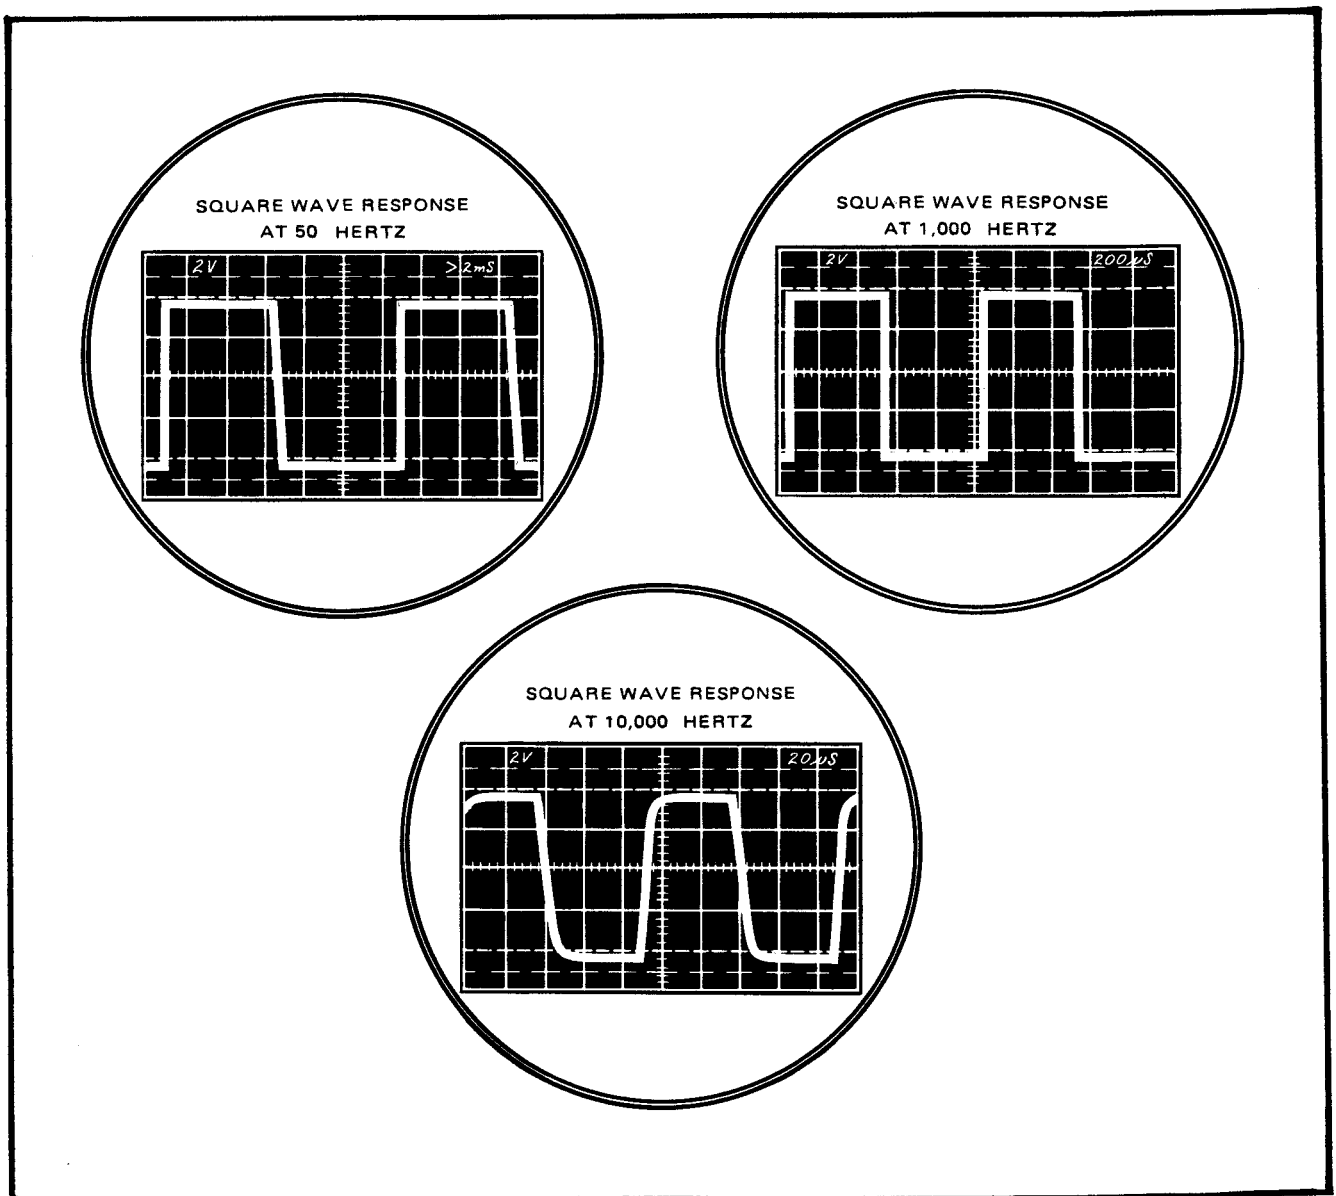

Figure 8. Square Wave Response
1. Verify square wave response at 1-Watt level for distortion - free performance (10 V peak-to-peak into 8-ohm load), as shown in Figure 8.